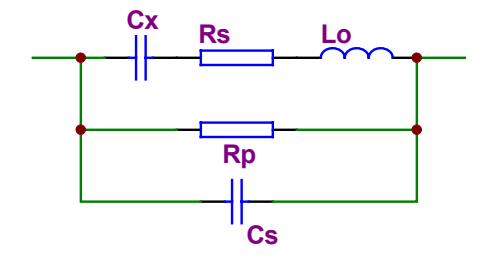

Figure3-8 Equivalent circuit of an actual capacitor
- a) We can select the circuit mode according to the variation of D atp two different frequencies. If the dissipation factor of a capacitor increases with the increase of the test frequency, series circuit mode should be selected. If the dissipation factor decreases with the increase of the test frequency, parallel circuit should be used. For inductor, the situation is just in the opposite side. In fact, D is impossible in direct ratio with the test frequency. From Figure 3-8, we can find that R_p and R_s exist at the same time. If R_s is more significant than R_p , series mode is selected; If R_p is more significant than R_s , parallel mode is more suitable.